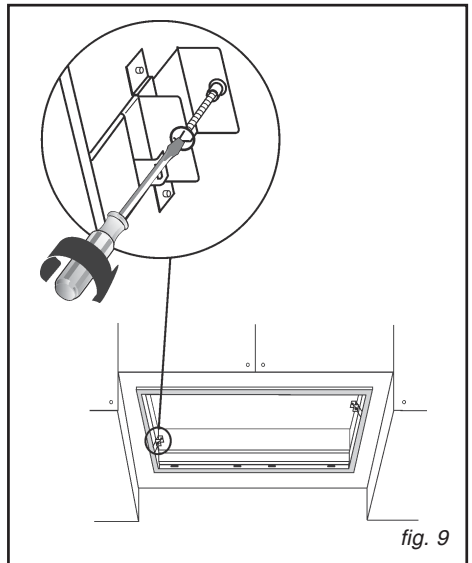

fig. 9
- Assembly for SHG879 model (Fig. 9): tighten the 2 screws inside the appliance until it fits snug on the bottom of the wall unit. Do not tighten the 2 screws strongly to maintain the metallic clamps in
- Assembly for SHG879 model (Fig. 9): tighten the 2 screws inside the appliance until it fits snug on the bottom of the wall unit. Do not tighten the 2 screws strongly to maintain the metallic clamps in the right position.